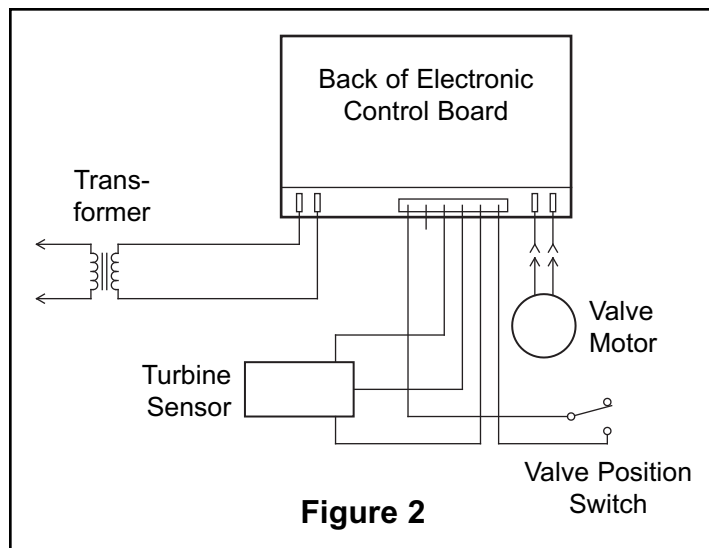

Figure 2
3. Unplug the wiring connections from the back of the old Electronic Control Board (See Figure 2).
6. Reconnect the wiring to the new board (See Figure 2).
7. Plug the transformer into the electrical outlet. A model code (420) and a test number (example: J3.0) briefly appear in the faceplate display. Then, 12:00 PM and the words “PRESENT TIME” begin to flash.